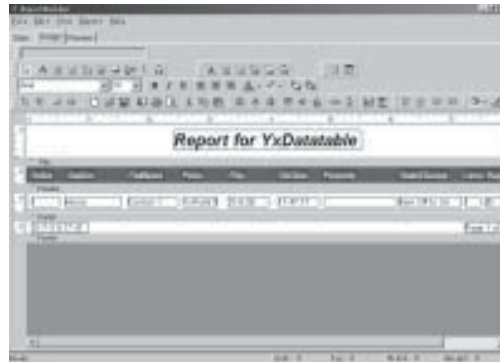

Fig. 7-6 Design the Report
(4) Design the Report: Select and click **Design** and you will then enter the diagram of the designing report ,as in Fig. 7-6. You can then design various reports according to your requirements.